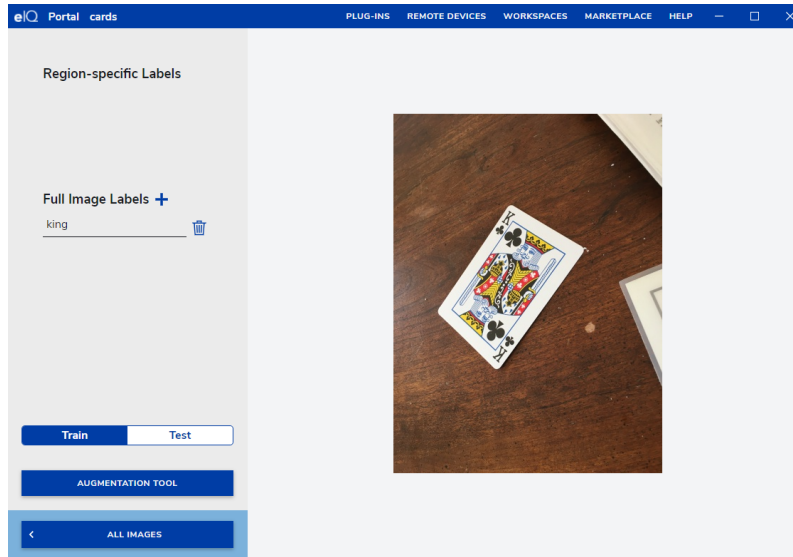

Figure 3.7.: eIQ Portal: dataset annotation
- **Full image:** assigns a label to the whole image (see Figure 3.7.).